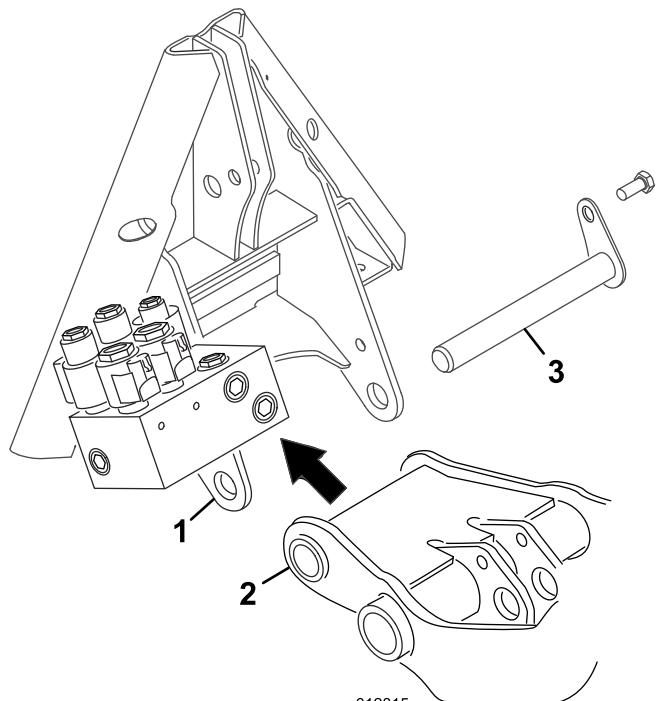

Figure 7
9. Mount the lift adapter to the rear lift arm with a pivot pin (Figure 7). Secure the pivot pin to the lift adapter with a screw (3/8 x 7/8 inch) and flange nut (3/8 inch).